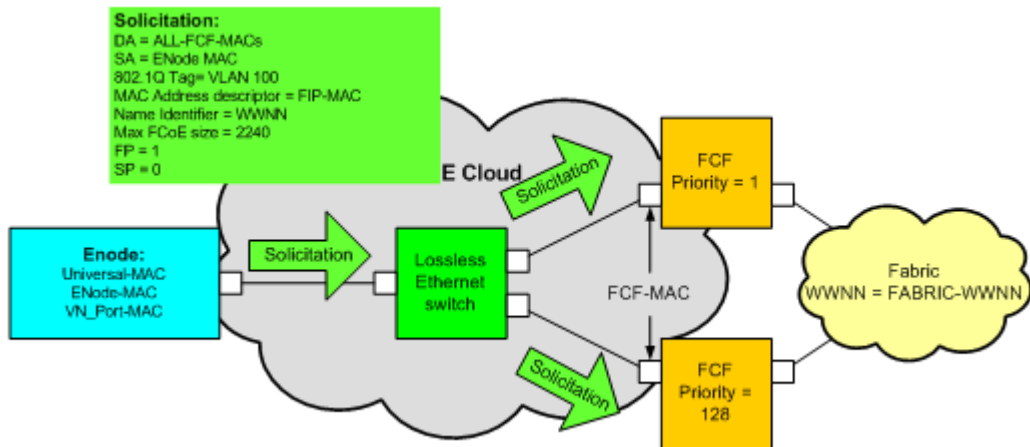

Figure 16 FIP Solicitation
After the ENode receives the FIP VLAN Notification, it should transmit a multicast FIP Solicitation, as shown in Figure 16.
One multicast FIP Solicitation should be transmitted on each VLAN that was returned in the FIP VLAN Notification. As shown in Figure 16, since only one VID (100) was returned in the FIP VLAN Notification, the ENode will transmit only one multicast FIP Solicitation. Note that the 802.1Q tag is set to the value of the VID returned in the FIP VLAN Notification. Other important features of the FIP Solicitation are the following fields.